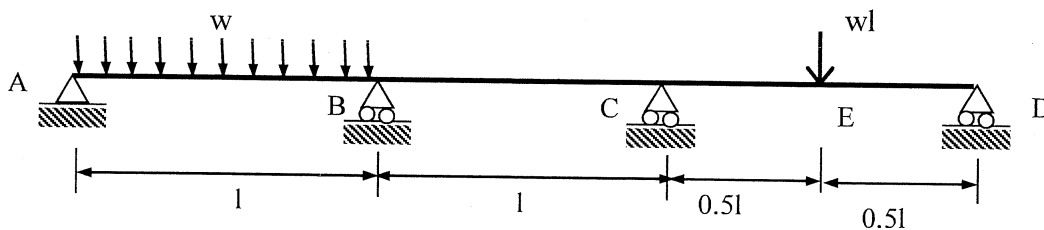

Figure Q4: A continuous beam with a uniformly distributed load and a point load
- (ii) Consider the continuous beam shown in Figure Q4. Flexural rigidity of members is equal to EI . Uniformly distributed load (w) is acting on member AB and a concentrated load (wl) is acting on the member CD at E.